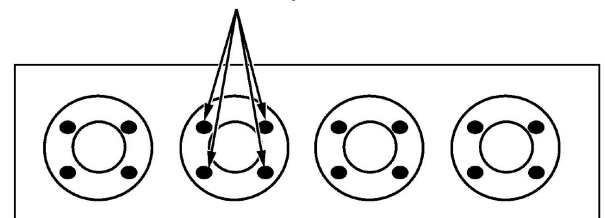

Figure 2.
1. Measure the piston head's protrusion (+) recession (-) from the crankcase cylinder face (4 spots per each piston and average of four pistons) as shown in figure 2 using a dial gauge measuring within .500" (12.700 mm).